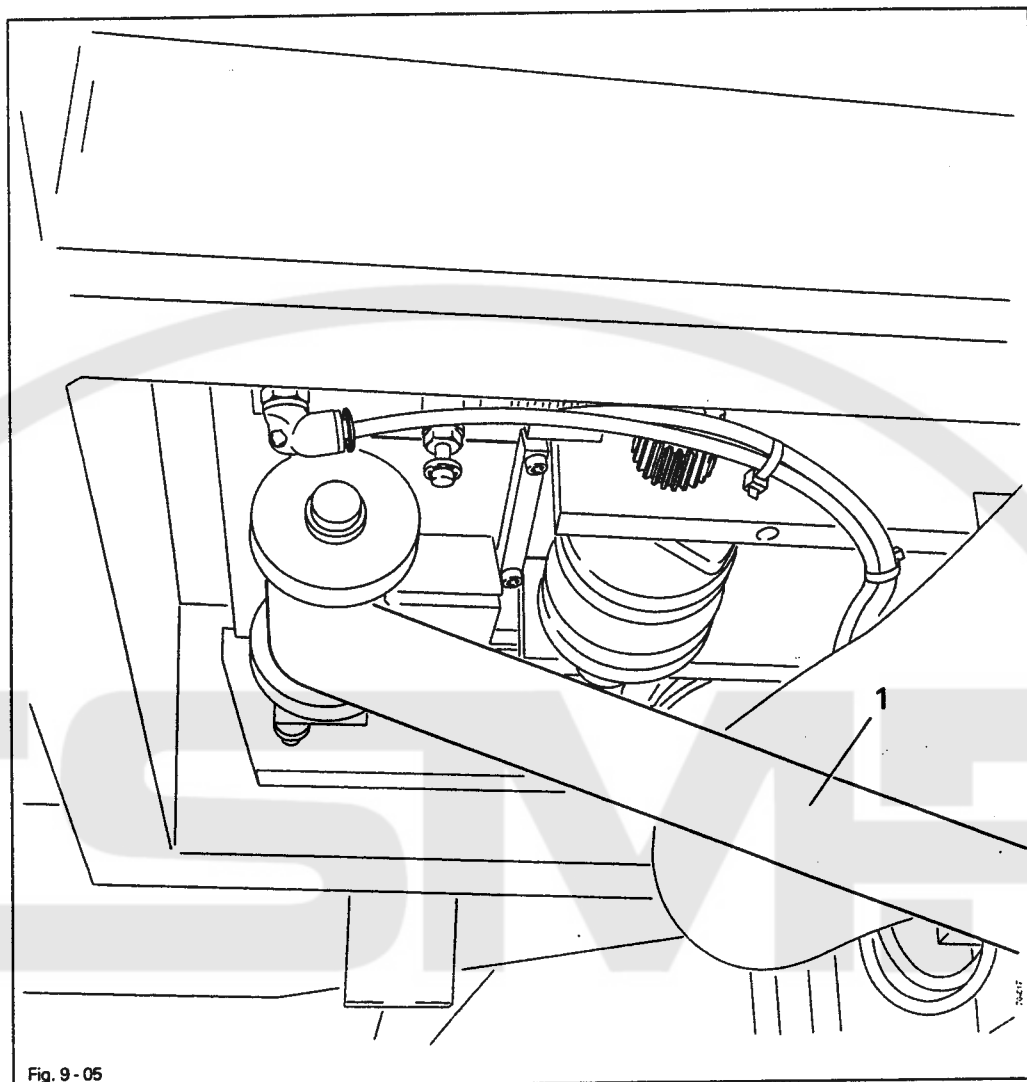

Fig. 9-05
- Insert the interfacing tape as shown in Fig. 9-05.